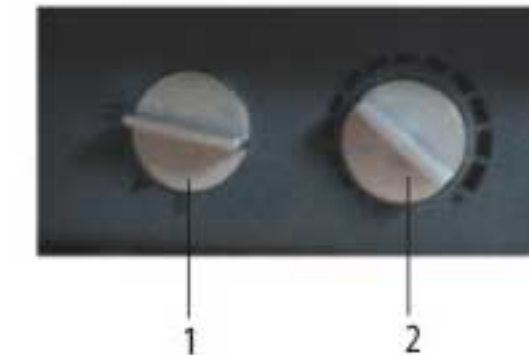

Fig. 5
The unit's control panel is on the side panel of the case (see fig.5).
2. Select the heating mode, comfortable for you, by setting the heating power regulator to one of the indicated positions (see Fig.5).
When activating the Antifreeze function, if the fan heater is switched on, then it will automatically start heating if room temperature drops to +5 °C. To activate this function, you need to switch the thermostat handle to position "-" (Fig.5).